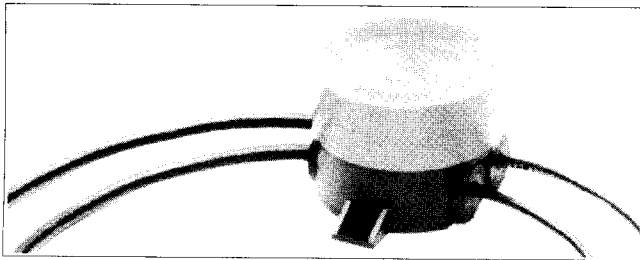

Figure 10: Junction Box
- DO NOT remove the molded waterproof connector. Removal voids warranty.** If your installation requires splicing of the cable to ease cable routing, **AIRMAR** offers a waterproof junction box (Figure 10, P/N 20-040) which some echosounder manufacturers provide with the transducer. The junction box comes with explicit instructions which must be followed carefully.
into the transducer cable (see Fig. 10).